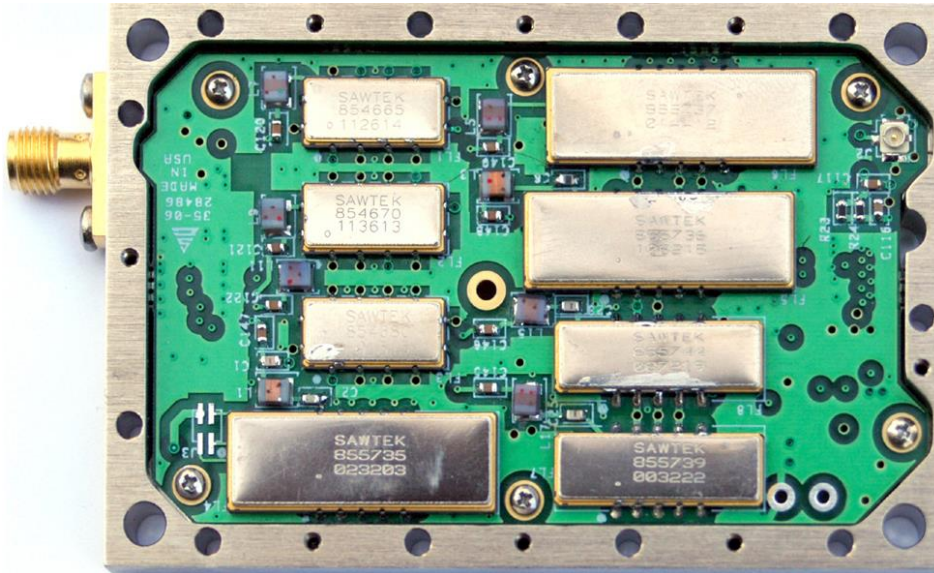

Figure 79: 70 MHz IF Module in 2" x 3" Chassis
The receiver's integrated IF filter module, shown in Figure 79, includes eight (8) SAW filters, ranging in bandwidth from 250 kHz to 40 MHz in approximately one-octave steps. The standard eight filters are 250 kHz, 500 kHz, 1 MHz, 2 MHz, 4.5 MHz, 10 MHz, 20 MHz, and 40 MHz. These filters serve as anti-aliasing filters ahead of the A/D converter in the demodulator itself. In addition, they can provide an added measure of adjacent channel interference rejection.